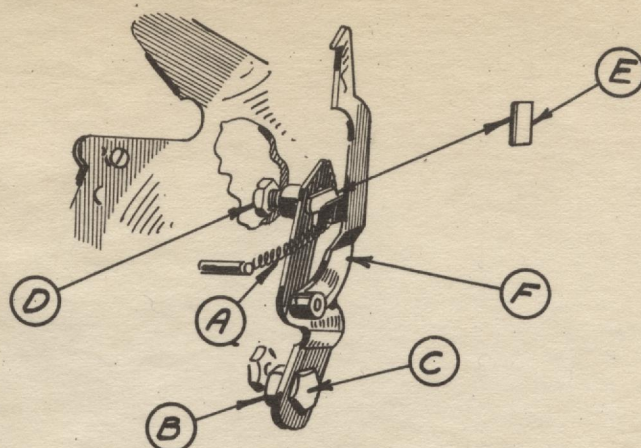

FIG. 1
- 283 UNHOOK THE CHECK SPRING AND RELIEVE FROM SWIVEL PIN (Y) - DO NOT LOSE SWIVEL PIN.
- 284 REMOVE SCREW (J) AND TAKE OFF EXTRA CARRY GEAR (K) - UNHOOK SPRING (L) AND REMOVE BELL TRIGGER AND HAMMER (M) - REMOVE SCREW (N) AND THE REAR INTERMEDIATE GEAR SHAFT ASSEMBLY AND CHECK SUPPORT ROD COMPLETE MAY BE TAKEN OFF.
- 285 TAKE OFF SCREWS (P) AND REMOVE TIE ROD (Q) - REMOVE COVER CASE POSTS (R) AND TIE ROD (S) - DRIVE OUT PIN (U) AND REMOVE GEAR (V) WITH KIT TOOL #75 - LOOSEN INSIDE NUTS (T) - TAKE OFF THE ADJUSTING KNOB (W) WITH SPRING AND BEARING - REMOVE BEARING (X) AND EXTRACT REAR CARRYING SHAFT.
- 286 REMOVE THE REAR SELECTING SHAFT - SAME AS FIG. 1 PLATE 42 - THIS BULLETIN - BUT REMOVE THE FRICTION BRAKES ALSO.